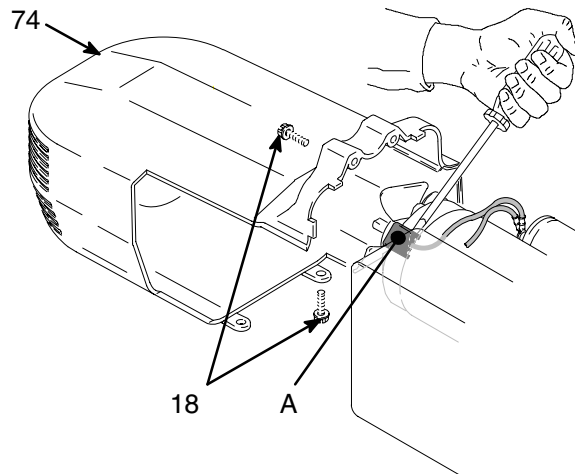
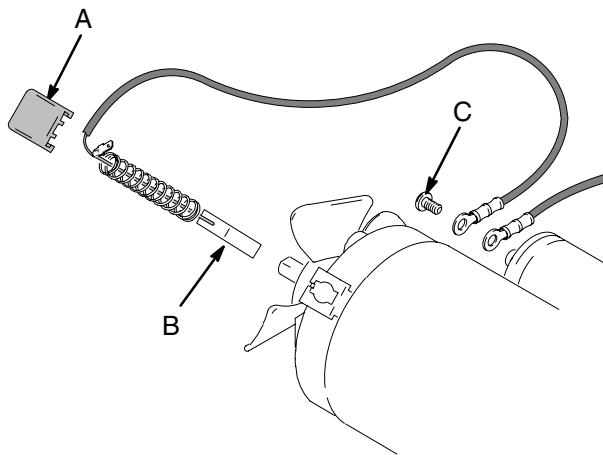

Fig. 4
Fig. 5
4. Fig. 4. Remove motor shroud (74).
3. Fig. 4. Remove four screws (18) and motor shroud (74).
4. Pry off two brush caps (A). Tag locations of red (+) and black (-) motor leads.
5. Fig. 5. Remove screw (C) and discard brush (B) for motor with capacitor attached. Remove brush lead from control box for motor without capacitor attached.
6. Fig. 5. Insert brush (B). Push clip (A) until it snaps into place and secures brush.
7. Fig. 5. Install red (+) and black (–) motor leads according to tags. Install brush lead end with screw (C) to motor-mounted capacitor or route lead into control box and connect to board.